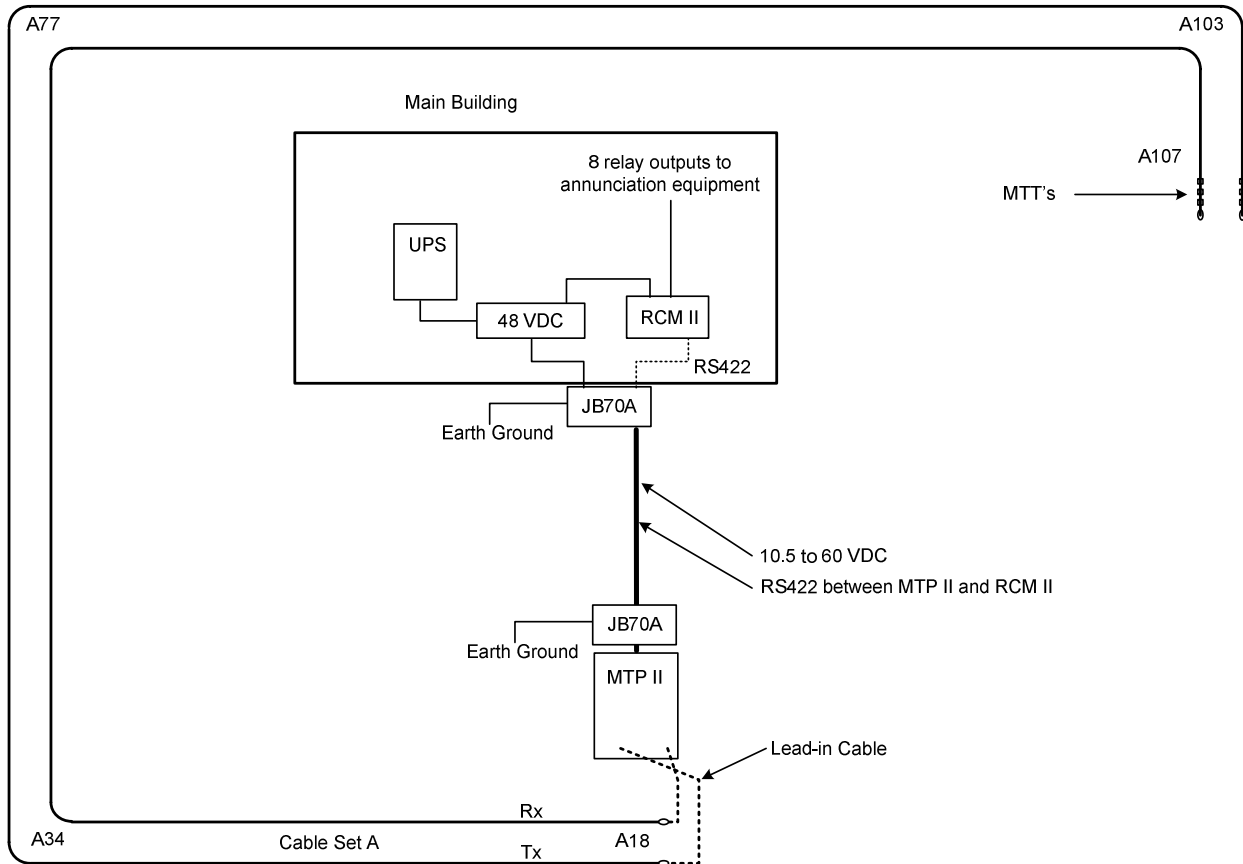

Figure 4.2 – Example of Minimum Configured Stand Alone MicroTrack II System
Figure 4.2 shows a minimum system configuration. The very minimum requirements will be one (1) MTP II, 1 Sensor Cable set, 2 MTT's, 1 Power Supply, 2 JB70A Surge Module and one (1) RCM II. A PC running an alarm monitoring program such as the Perimeter Security Manager or the GCM II can be substituted for the RCM II for graphic alarm annunciation. **Please note that a single cable set cannot form a closed loop perimeter.** Two sensor cable sets must be used for a closed loop configuration so that the transmit signal at the end of the cable will not couple back onto the start of the cable which can cause target location errors and/or multiple alarms from a single crossing. When two cable sets are used to form a closed loop, they operate on separate channels (A and B) that do not interfere with each other.